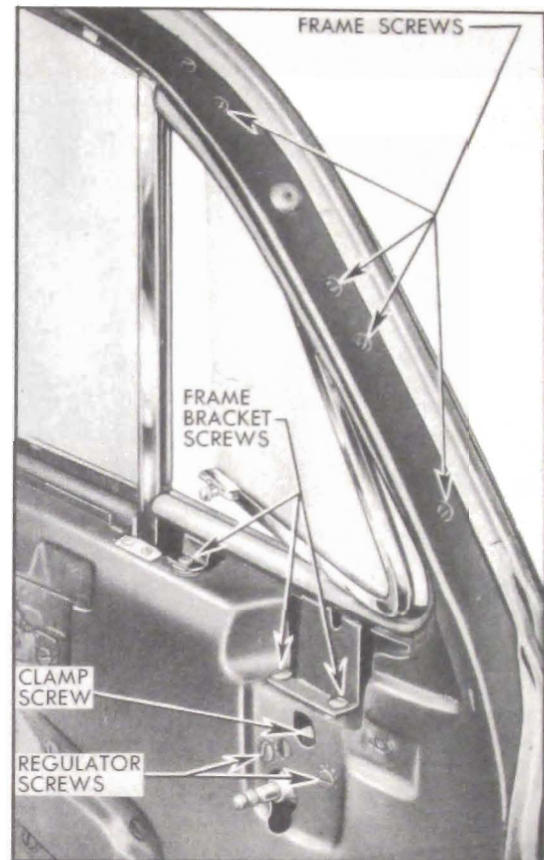

Figure 13-40—Ventilator and Regulator Attaching Screws
Front and rear door ventilators in 1948 models and front door ventilators in 1949 Series 50-70 are operated by a regulator mounted on the door inner panel. A bolt type lock riveted to the glass channel provides a lock for the ventilator. See figure 13-40.
If the ventilator frame does not properly contact the weatherstrip at lower rear section, resulting in a water leak, this may be corrected by loosening the ventilator frame lower screws (fig. 13-40) and inserting shims under the frame as required to move the weatherstrip up into contact with ventilator frame. If weatherstrip is loose at reveal molding it must be securely cemented in place with 3-M Rubber Adhesive.
2. Remove clamp screw which attaches glass channel T-shaft to regulator, also the regulator attaching screws. See figure 13-40.
3. Remove screws which attach ventilator frame to door at pillar face and inner panel. See figure 13-40.